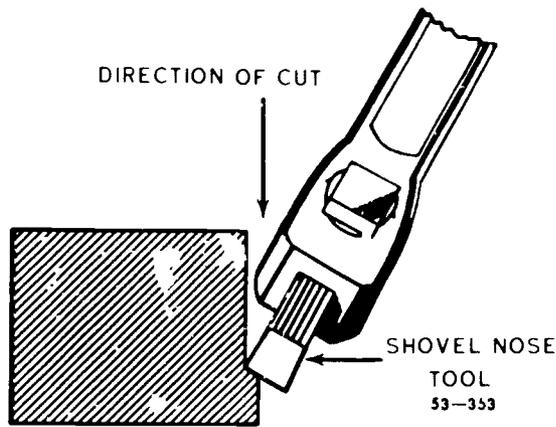

Figure 33 Shovelnose tool
f. Shovelnose. The *shovelnose tool* is similar to the squaring tool, except that the ends of the cutting edge are rounded slightly and the back rake angle is reduced. You can use it either as a right-hand or left-hand tool. You can use it to machine vertical surfaces, as shown in figure 33.